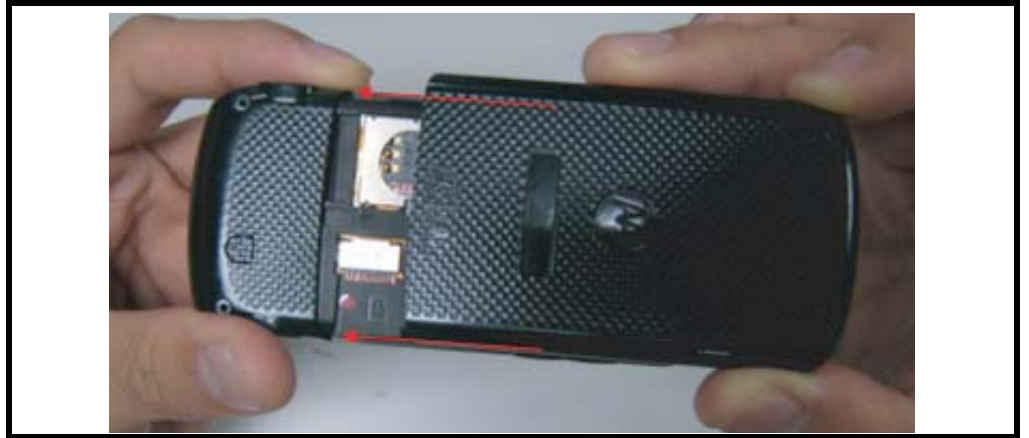

Figure 4. Replacing the Battery Door
3. To replace, align the battery door to the lower housing in Figure 4. Slide the battery door in the direction shown until it clicks into place and hear a click sound. Then completely replace the battery door.